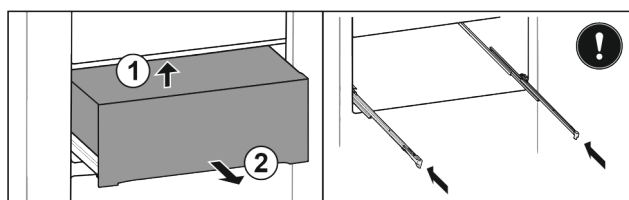

Fig. 29\*
- ▶ Lift it up at the back from below Fig. 29 (1).\*
- ▶ Take out to the front Fig. 29 (2).\*